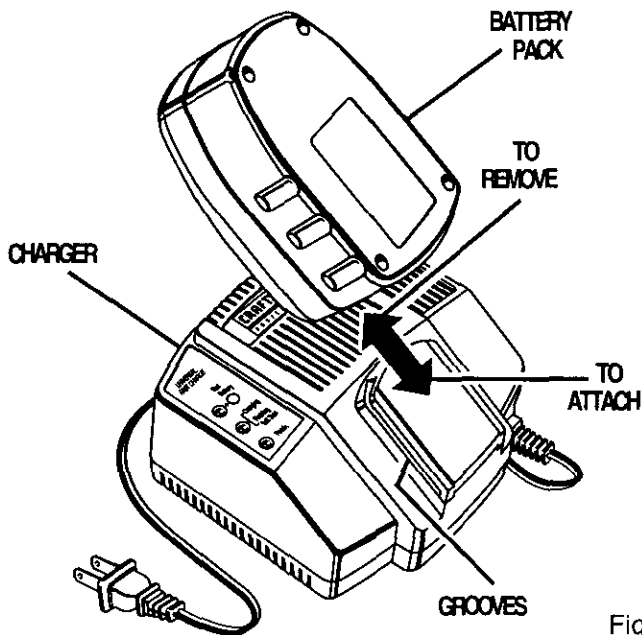

Fig. 7
- Attach battery pack to charger by aligning raised ribs on battery pack with grooves in charger, then slide battery back onto charger. See Figure 7.